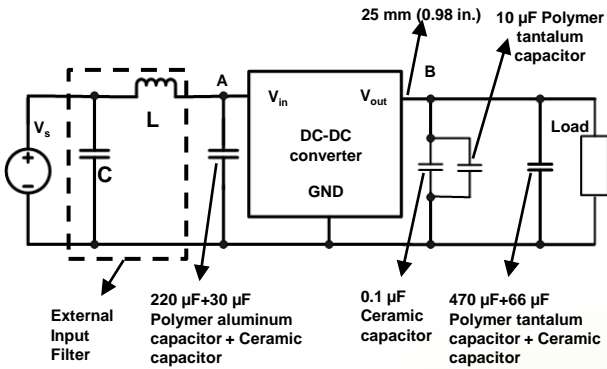

Figure 45: Test set-up diagram
1. Measure the output voltage ripple at B (25 mm [0.98 in.] away from the V_{out} pin) shown in Figure 45.